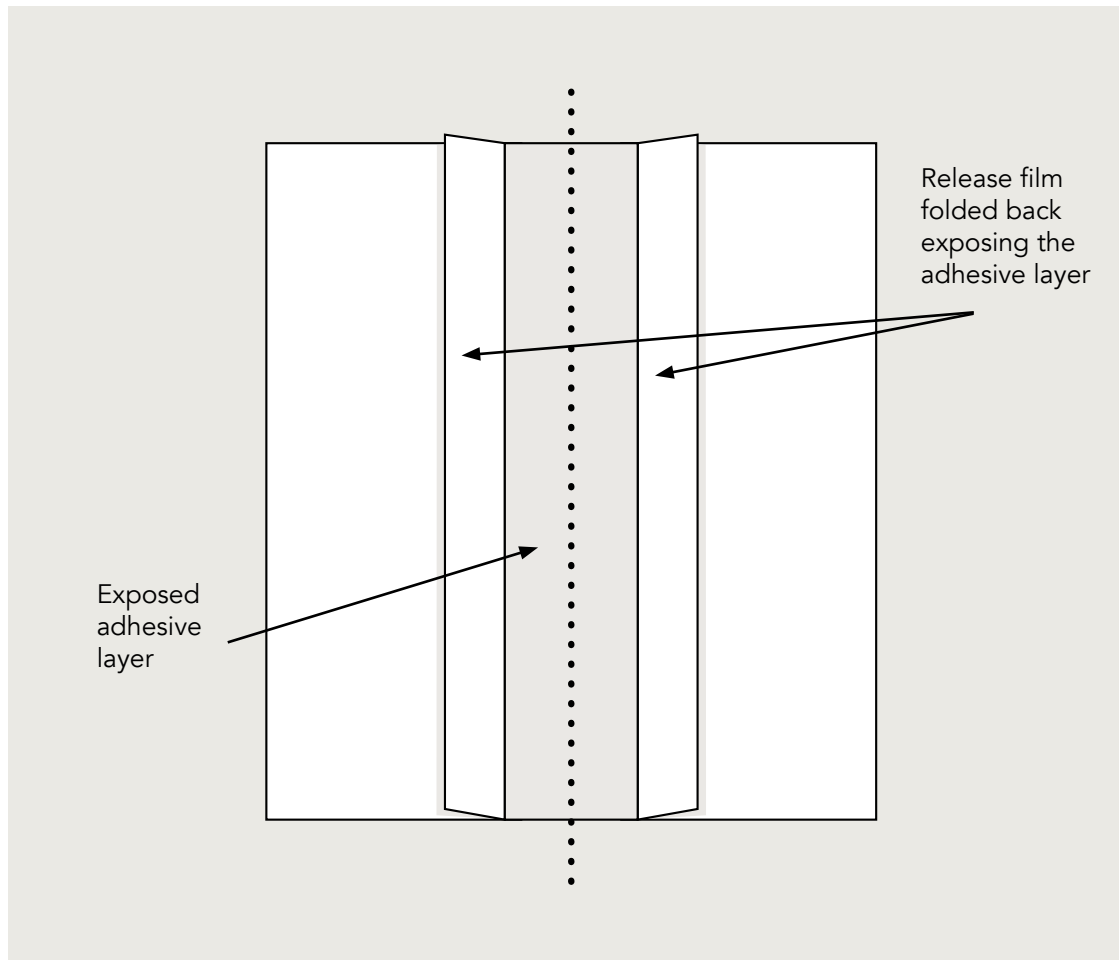

Figure 2: Next cut the release paper down the centre and pull back the release film to expose about 150mm of the adhesive layer on each side of the centre line.
- 1. Create a crown line panel for the chevron pattern, bonding boards together by gluing the tongue and groove joints with a suitable adhesive. Bond together 4 boards each side of the centre line and allow time for the adhesive to fully set (see fig 1). Use a plywood template to set the crown line accurately (see fig. 2,3).